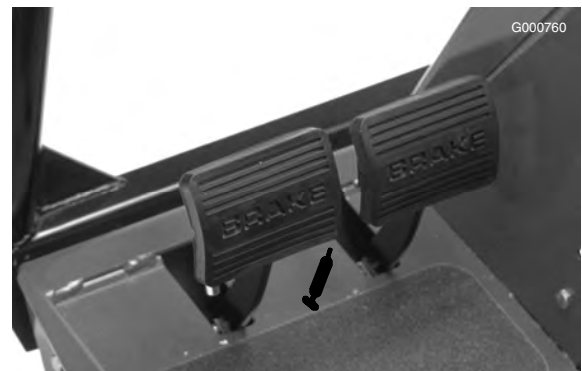

Figure 51
- Brake pedal shaft (1) (Figure 51)